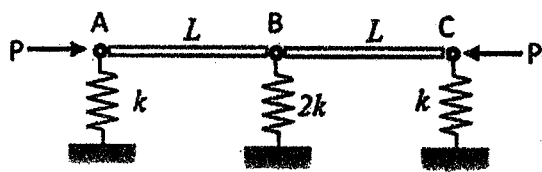

Fig. 1
- The two rigid bars of Fig. 1 are pin-connected at Point B and vertically supported by three linear springs at Points A, B, and C (see Fig. 1). The lengths of the rigid bars are both L . The stiffness of the three springs at Points A, B, and C are k , $2k$, and k , respectively. The system of Fig. 1 is subjected to an axial compressive load P . Ignore the weight of the rigid bars. Determine the minimum critical load P_{cr} and its corresponding shape for the system. (25%)